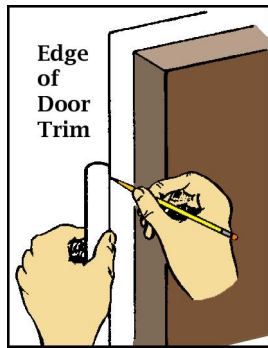

Figure 5
- **Step 7** Slide an alignment guide over the body tube and mark the tube for three fins and the launch lug. As shown in Fig. 5, extend these upward along the tube using the trim around a door, or a piece of brass angle stock. The fin lines should be 2.25" long, and the launch lug line should be 3.5"